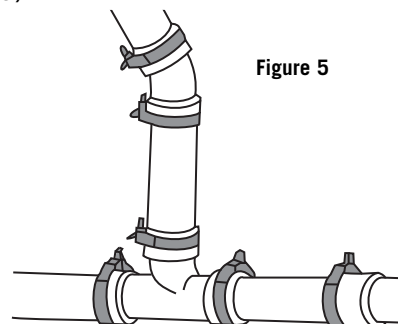

Figure 5
14. Allow five additional minutes before removing the clamps so that the joint can sufficiently cool and properly cure (Figure 5).